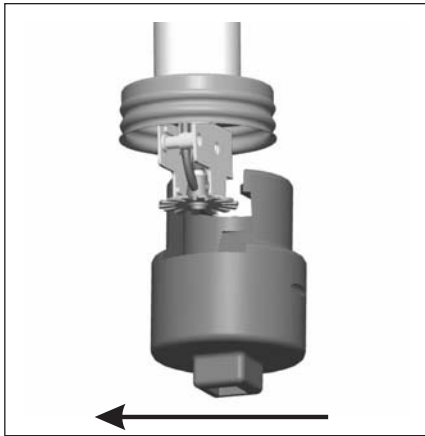
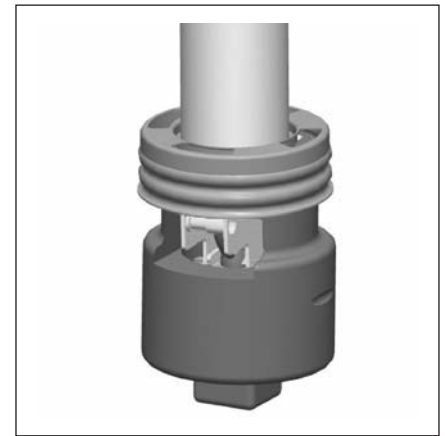

Fig. 1 - G3 R/C Wrench
Fig. 3 - G3 R/C Wrench
- The Model G3 R/C wrench (Fig. 1) is designed to locate on the wrenching pads of the recessed sprinkler while centering in the cup. A standard 1/2" drive ratchet may be used to drive this wrench. Figures 1 and 2 show sequentially the insertion of the wrench. First the wrench, with its jaws above the sprinkler deflector, is moved laterally until centered with the cup. Then raise the wrench inside of the cup until its jaws engage the sprinkler's square wrenching pads (Fig. 3). To remove the wrench, follow this procedure in reverse order. Care should be taken to avoid striking the deflector, with the wrench.